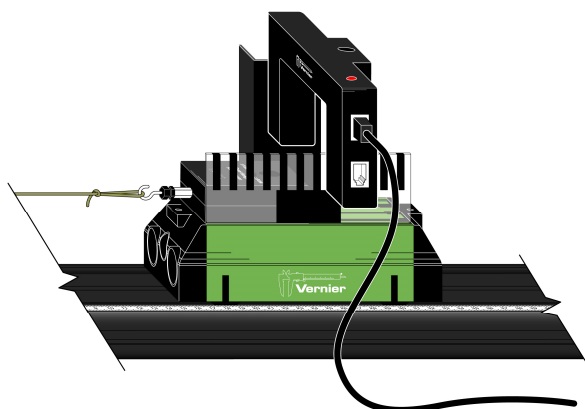

Figure 1
4. Position the photogate (using a support rod and clamp) so that the alternating dark and clear bands on the picket fence will interrupt the beam, as shown in Figure 1.